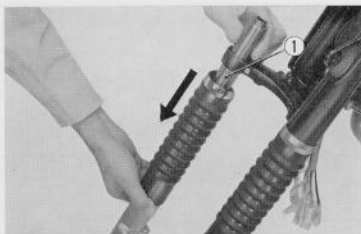

Fig. 4.29 Removing front fork assembly
- Remove the two front cushion setting bolts at the front fork bottom bridge and remove the front cushions ①. (Fig. 4.29)